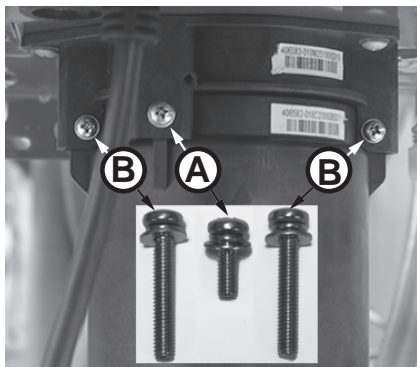

Figure 175 - Identify cartridge screws
- 6 Locate the three (3) screws securing the X3®/Bypass cartridge as shown in Figure 175. Remove the (A) M4-12mm screw and the two (B) M4-25mm screws from cartridge. Place screws aside in a safe place for reinstallation.